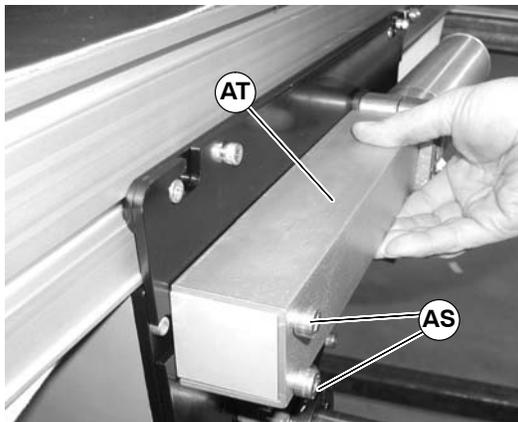

Figure 61
2. Remove screws (AS of Figure 61) and tensioning roller guards (AT) from both sides of center drive.